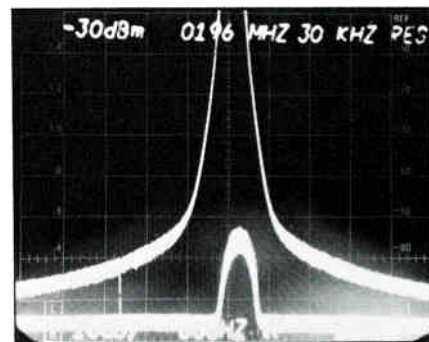

Figure 4-2 Composite triple-beat measurement (multiple exposure photo)
6. The composite triple-beat will appear below where the carrier was (figure 4-2). Starting at the carrier amplitude (10 dB off screen), measure down to the middle of the triple-beat response. Since the composite triple-beat consists of multiple independent signals, the measurement on the spectrum analyzer screen will read low by 2.5 dB. Correct the measurement results by subtracting 2.5 dB from the measured value. For example, in figure 3-2, the composite triple-beat measures 66 dB below the carrier. The beat is actually 66 dB—2.5 dB or 63.5 dB below the carrier.